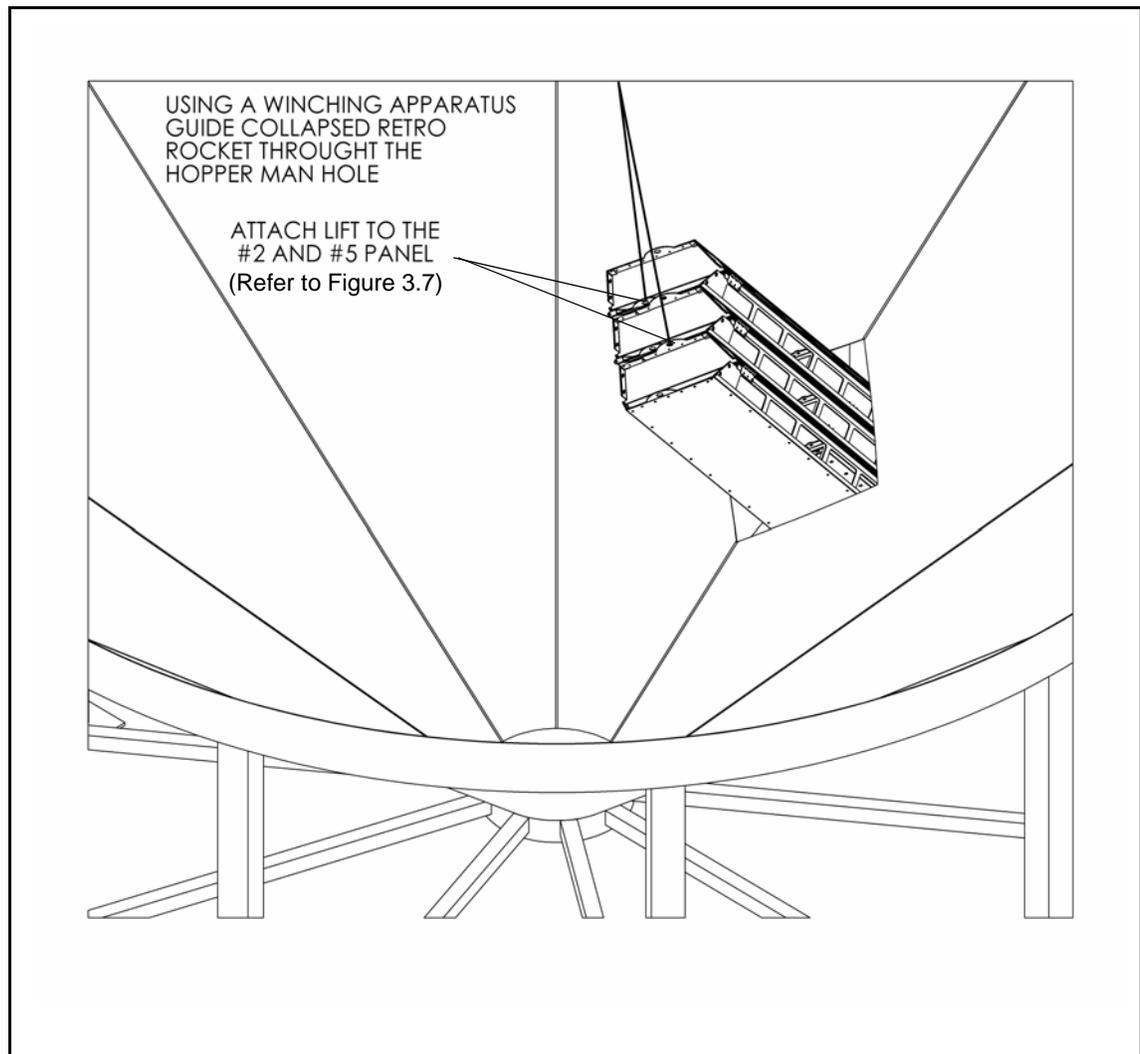

Figure 3.5
7. Connect cable from the lifting device to the lugs located on the second and fifth section from the outside on either side of the folded up rocket. See Figure 3.5.
1. Place folded up rocket into the opening of the hopper cone (Figure 3.5).
2. From the outside, connect cable from the lifting device to the lugs located on the second and fifth section on either side of the folded up rocket. See Figure 3.5.